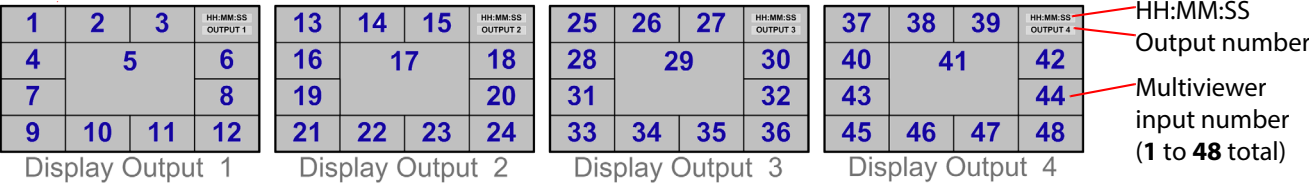

Figure 7 Default Video Wall Layout
4. Default video walls are shown on Display Outputs 1 to 4. See **Figure 7**.
A default video tile-grid is shown on head **Display Outputs 1 to 4**. All 48 video signals monitored by the multiviewer are shown. And 'HH:MM:SS' time and 'display output number' are also shown. See **Figure 7**.